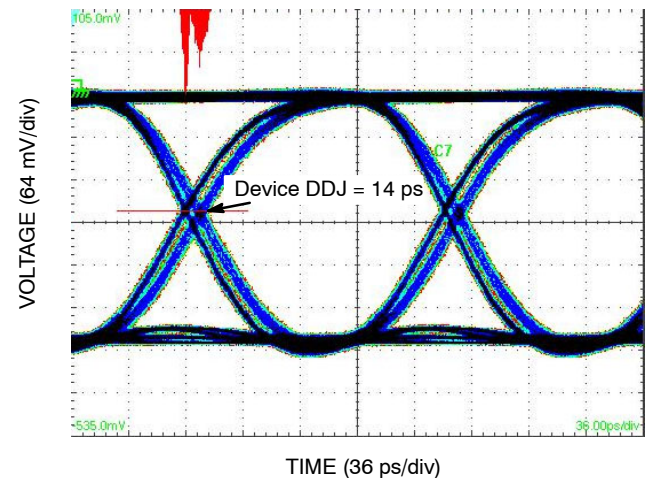

Figure 12. Typical Output Waveform at 6.125 Gb/s with PRBS $2^{23}-1$ ($V_{INPP} = 400$ mV; Input Signal DDJ = 15 ps)
1. Measured by forcing $V_{INPP(MIN)}$ from a 50% duty cycle clock source. All loading with an external $R_L = 50\ \Omega$ to V_{CC} . Input edge rates 40 ps (20% – 80%). See Figure 12 and 14.